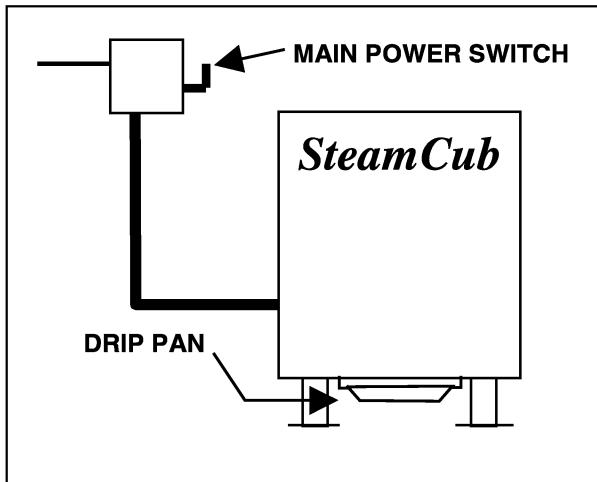

Figure 4-4, Recommended Electrical Layout
- e. There should be a sufficient length of flexible conduit between the steamer and the wall so the unit can be serviced. Mechanically secure the flexible conduit to the electrical access hole (Figure 4-4).
- f. Refer to the connection diagrams in Figure 4-4, and connect the wires to the terminal block and ground connector accordingly.
- (1) Check that the drain valve is closed. There should be no water in the steamer.
- (2) Open the steamer door. Check for proper installation of the slide racks, and door gasket assembly. Be sure the drain is not blocked. Shut the steamer door.
- (3) Refer to electrical layout, Figure 4-4, and Table 4-1. Be sure the main power switch is in the off position. Verify installation of the proper size fuses or breakers.
- (4) Set the ON/OFF switch to the OFF position and open the steamer door.
- (5) Remove the right side access cover.